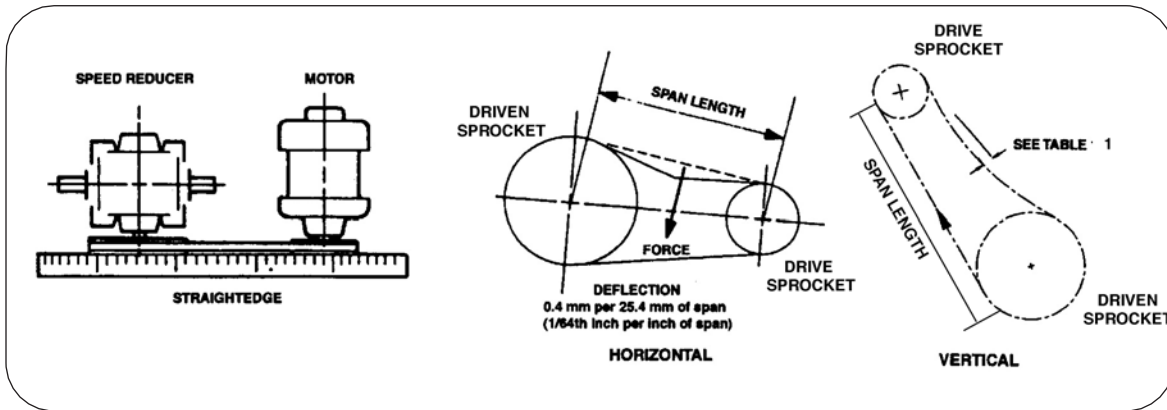

Figure 4. Reducer / Motor Alignment and Tension Adjustment
1. Check sprocket alignment using a straight edge or taut cord stretched across the faces of the drive sprocket and the driven sprocket (Figure 4). The tolerance is  $\pm 0.5$  degrees or 3.5 mm per 0.3 m (1/8" per foot).
3. Check roller chain tension. Deflection of the span shown is in Figure 4 and Table 1.